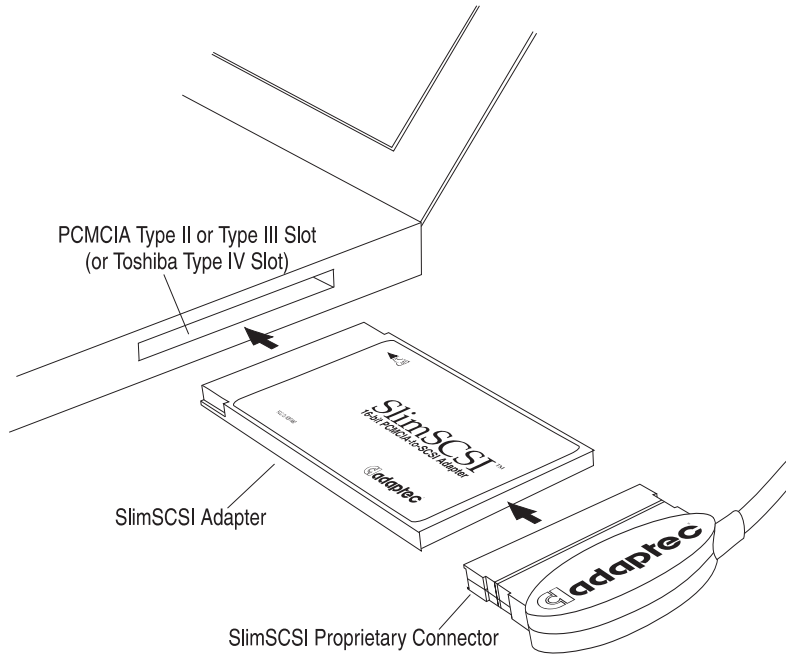

Figure 2-1. Installing the SlimSCSI Adapter
- 1 Connect your SlimSCSI adapter to its proprietary cable connector; the reversible connector allows it to be connected either way (see Figure 2-1).
- 2 Insert the SlimSCSI adapter into the PCMCIA type II, type III, or Toshiba type IV slot (see Figure 2-1).
This section documents the SCSI interface connectors on the SlimSCSI adapter cable as well as the typical mating connectors found on SCSI devices. The connector on the SlimSCSI adapter and the connector that attaches the SlimSCSI cable to the adapter are proprietary. See Figure 2-1.